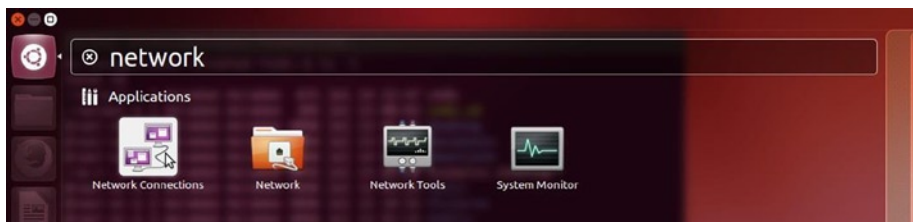

Figure 5-11. Network connections in Ubuntu Dash
2. Start typing the word network. You will soon be able to see Network Connections, as shown in Figure 5-11. Click on it.